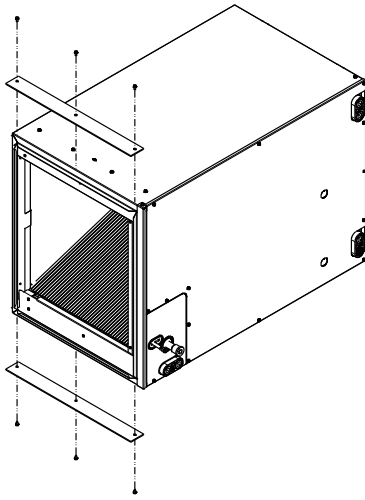

Fig. 8 – Horizontal Right Attachment Plates
1. Use field fabricated attachment plates to secure coil to furnace (Fig. 8).